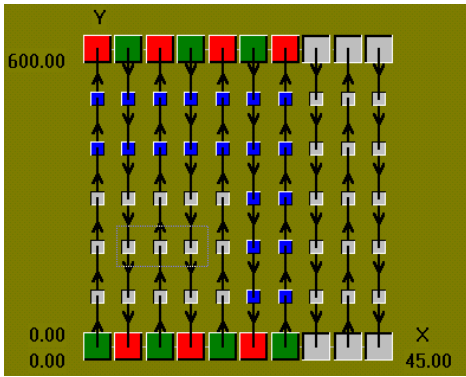

Figure 46
- When you select positions, if the positions were already selected they will be deselected (Figure 46 and Figure 47). If they were not selected they will be selected (pressing the CTRL key toggles the selection.)